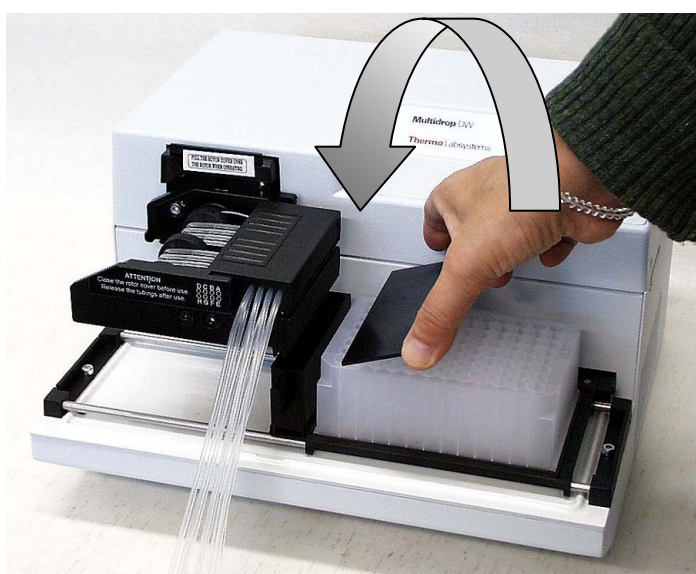

Fig. 6.17 Placing the adjustment plate onto the deep-well plate
3. Then place the black flat pump head adjustment plate supplied on top of the deep-well plate (*Fig. 6.17*).